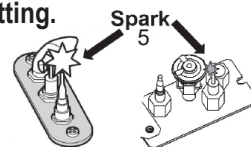

Fig 3
2. **SET ON/OFF SWITCH (1) TO "OFF" POSITION.**
- Wait five (5) minutes to clear out any gas, then smell for gas, including near the floor. If you smell gas, **STOP!** Follow "B" in the safety information above on this label. If you don't smell gas, go to the next step.
3. **AUTOMATIC IGNITION (fig. 1):** Locate the pilot (fig 3.) inside of firebox.
- ON/OFF switch (1) in ON position, MAN-knob (2) in ON position; set Flame Adjustment knob (3) to lowest setting (U)
- When the pilot is lit, the Flame Adjustment knob (3) will automatically rotate to the highest setting.
4. **MANUAL IGNITION (fig. 2):** With the window off, locate pilot (fig. 3) inside firebox;
- ON/OFF switch (1) in ON position, MAN-knob (2) in MAN position;
- Set Flame Adjustment knob (3) to the lowest setting (U);
- Push down the metallic core (4) with a pen or similar instrument; this will establish the pilot gas flow; Light gas at the pilot (5) with a match;
- Continue holding down metal core (4) for about 10 seconds; after release, pilot should remain lit;
- If the pilot will not stay lit after several tries, turn the gas control knob (3) to "OFF" (U) and call your local service technician or gas supplier.